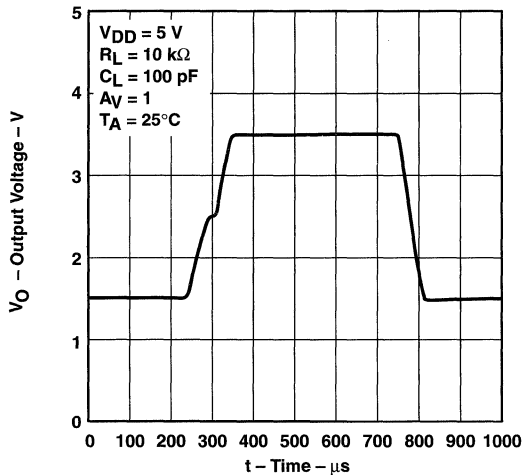

Figure 39
- Where the load is referenced. When the load is referenced to either rail, this condition does not occur. The distortion occurs only when the output signal swings through the point where the load is referenced. Figure 39 illustrates two 10- $\text{k}\Omega$ load conditions. The first load condition shows the distortion seen for a 10- $\text{k}\Omega$ load tied to 2.5 V. The third load condition shows no distortion for a 10- $\text{k}\Omega$ load tied to 0 V.
- Load resistance. As the load resistance increases, the distortion seen on the output decreases. Figure 39 illustrates the difference seen on the output for a 10- $\text{k}\Omega$ load and a 100- $\text{k}\Omega$ load with both tied to 2.5 V.